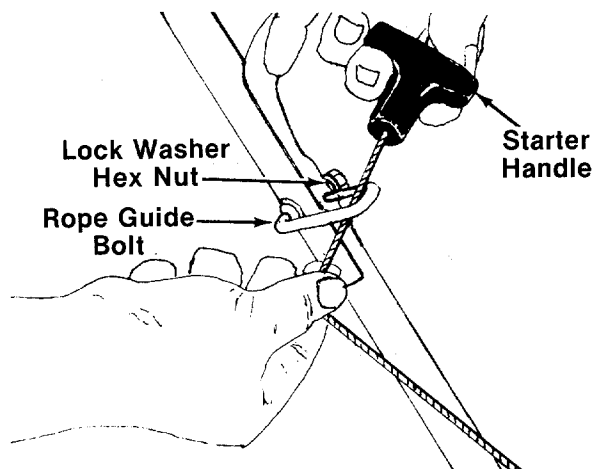

FIGURE 10.
2. Slip the starter rope into the rope guide bolt as shown in figure 10. If more slack is needed in the starter rope, disconnect and ground the spark plug wire. Depress the blade control handle and pull additional rope out from the engine.